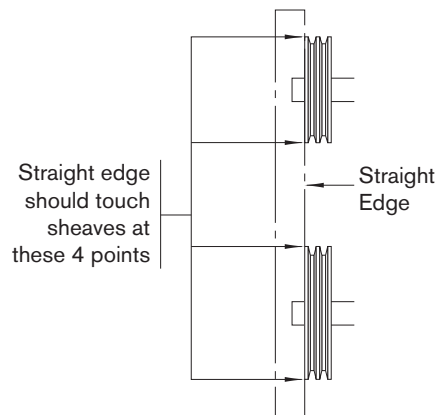

Figure 3
8. Align the blower and motor sheaves with a straight-edge or string as shown in **Figure 3**. If the sheaves are not the same width, align by sight. For more precise methods, consult your local drives dealer.